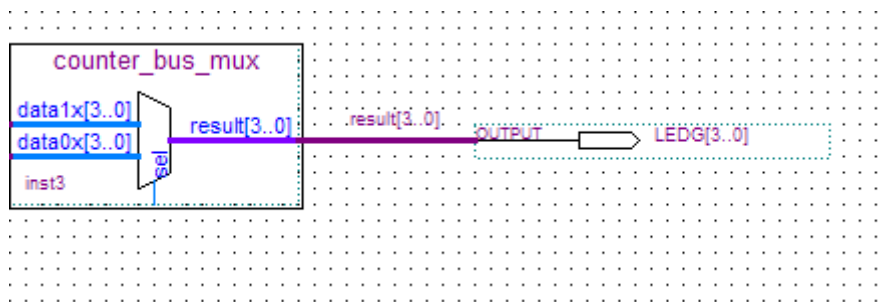

Figure 3-28 Rename the output pin
18. Rename the output pin as LEDG [3..0] as described in steps 13 c and d. (see **Figure 3-28**).